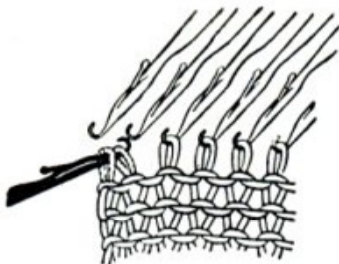

Fig. 72
- a. Using the single transfer needle, transfer the center stitch onto a neighboring needle on either side. (See Fig. 72)